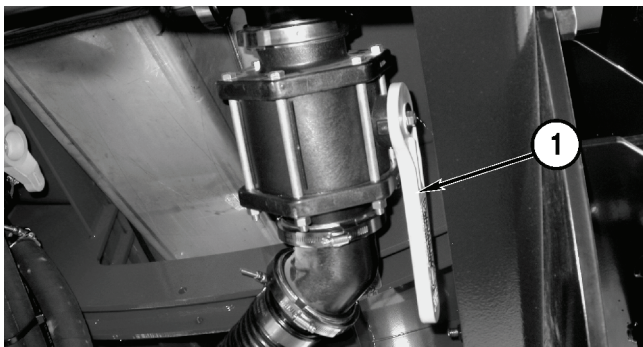

Figure 4-26
4. Open the sump valve (Figure 4-26, 1) on the underside of the product tank.